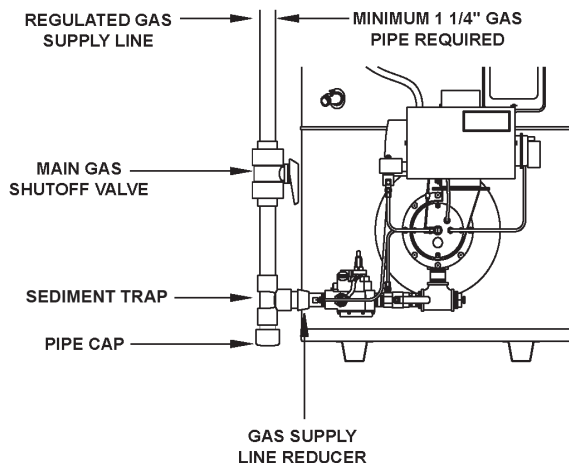

FIGURE 23.
To trap any dirt or foreign material in the gas supply line, a sediment trap must be incorporated in the piping (see Figure 23). The sediment trap must be readily accessible and not subject to freezing conditions. Install in accordance with recommendations of serving gas suppliers. Refer to the latest version of the National Fuel Gas Code.
- For test pressures exceeding 1/2 psi (3.45 kPa) disconnect the water heater and its Main Gas Shutoff Valve from the gas supply piping system during testing, see Figure 23. The gas supply line must be capped when disconnected from the water heater.